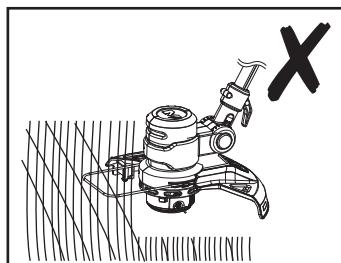
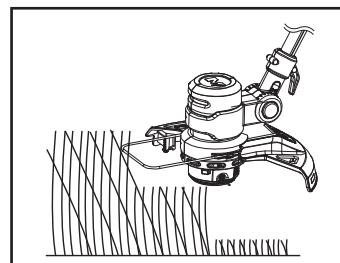

Fig. 16
Fig. 17
- Ensure the cutting device remains clean and free from off-cuts that may cause it to jam. Check regularly. Release the on/off switch (2) and disconnect the product from the power supply before checking.
- Trim longer grass in stages; do not cut long grass in one cut (Fig. 16). For the best results, cut longer grass in steps (Fig. 17).